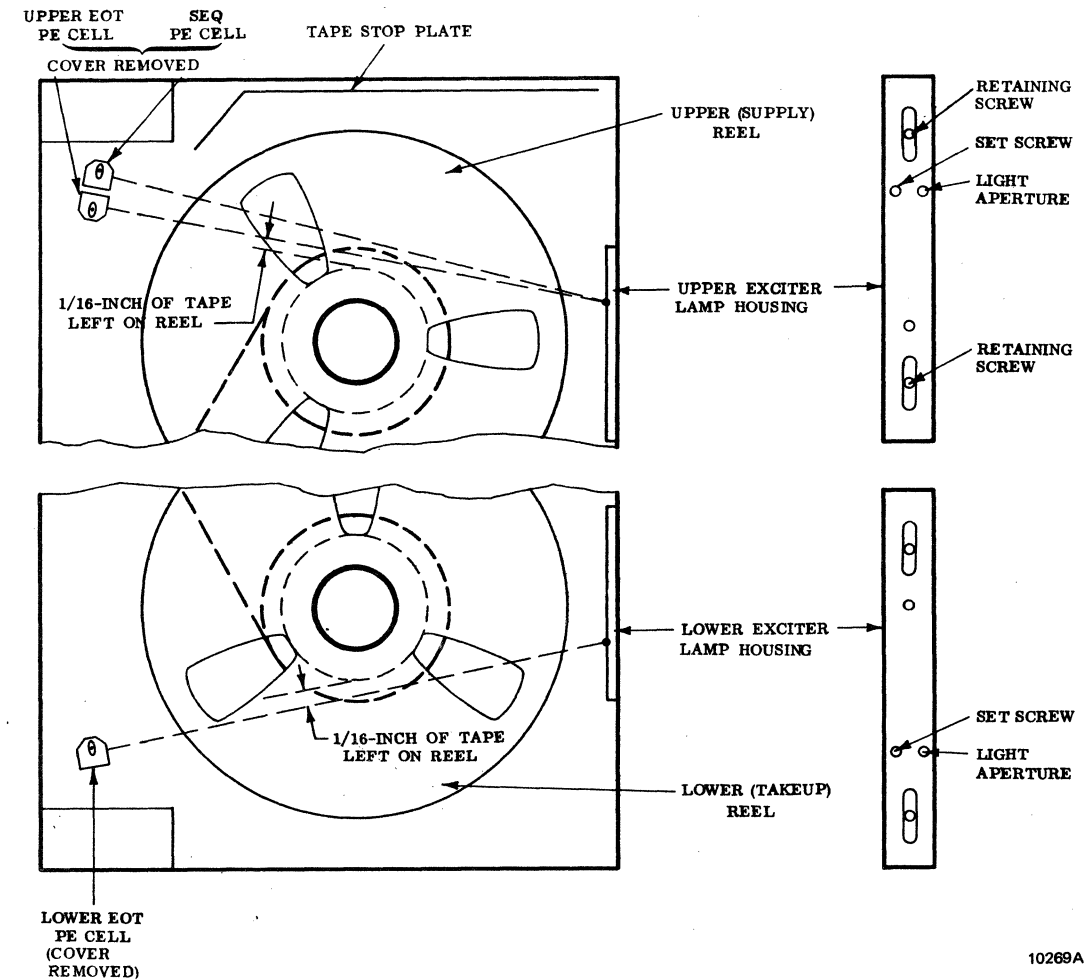

Figure 9-9. EOT and Sequential Sensor Adjustment
There are two end-of-tape (eot) photosense assemblies and one sequential photosense assembly. The sequential photosense assembly and one of the eot photosense assemblies are mounted on the upper lefthand corner of the tape transport just below the footage counter compartment. The other eot photosense assembly is mounted on the lower lefthand corner of the tape transport just above the voice monitor compartment. The exciter lamp housings (one upper and one lower) are mounted on the hinge side of the tape transport. The housings are identical, but the lower one is inverted as compared to the upper one (see Figure 9-9).
the retaining screws are centered in the slots. (See Figure 9-9.) Tighten the retaining screws lightly.
- Install a full reel of tape in the upper (supply-reel) position. Thread the tape, turn on power, select fast forward mode, and wind a pack of tape approximately 1/16-inch thick onto the take-up reel, as shown in Figure 9-9, then select stop mode.
- Adjust the upper lamp assembly plate so that the retaining screws are centered in the slots. (See Figure 9-9.) Lightly tighten the retaining screws.
- c. Install a full reel of tape in the takeup (lower) reel position and use fast reverse mode to wind approximately a 1/16-inch pack of tape onto the empty reel in the supply-reel position, as shown in Figure 9-9. Stop the tape.